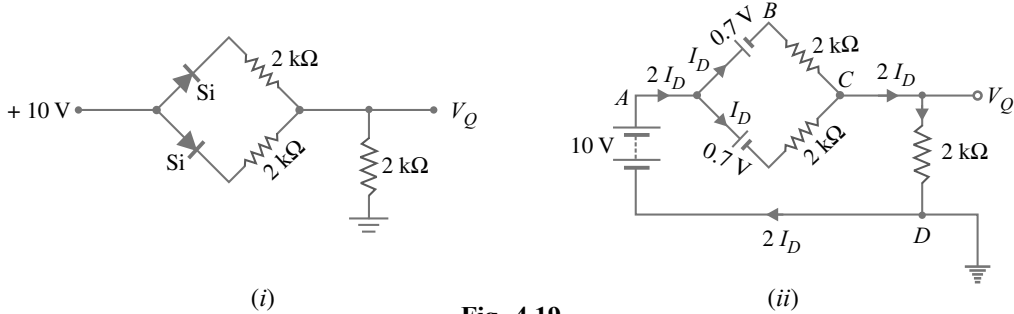

Fig. 4.19
**Example 4.17.** Find  $V_Q$  and  $I_D$  in the network shown in Fig. 4.19 (i). Use simplified model.
as shown in Fig. 4.19 (ii). By symmetry, current in each branch is  $I_D$  so that current in branch  $CD$  is  $2I_D$ . Applying Kirchhoff's voltage law to the closed circuit  $ABCD$ , we have,